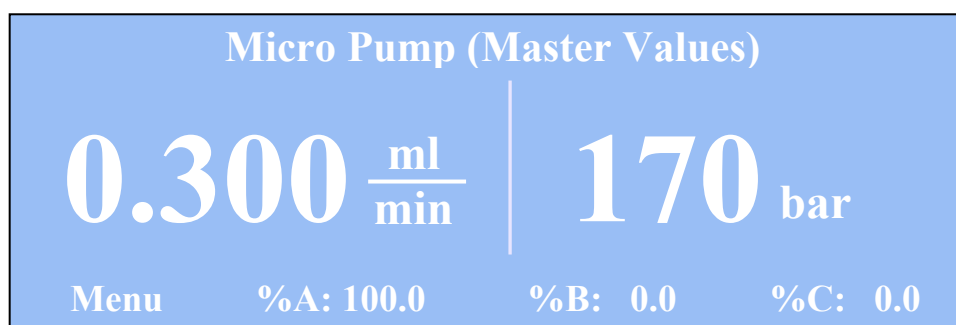

Fig. 21: Micro Pump (Master Values) display
- **Master** takes you to the display with the master values for the left pump according to DisplayMode = Left\_Master (→ Fig. 19, page 38) or for the right pump according to DisplayMode = Right\_Master (→ Fig. 21, page 39). In the standard configuration, the left pump is the loading pump and the right pump is the micro pump.